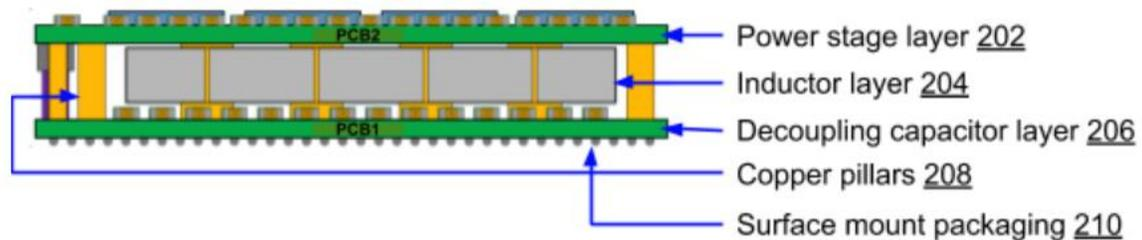

Fig. 2: Layered structure of the power delivery module
Fig. 2 illustrates in finer detail the layered structure of an example power delivery module, where VR components and decoupling capacitors are structured as PCB layers. One of the PCB layers (PCB2) hosts VR components such as power FETs, and is referred to as the power stage layer (202). The decoupling capacitors (206) are placed on another PCB layer (PCB1), possibly a layer relatively close to the load in the vertical stack-up. Other components, such as coupled inductors (204), are placed in the spacing between the layers. The different layers are electrically connected together using copper pillars (208), forming a module. The module as a whole may be molded for mechanical stability. The bottom side of the module can host surface mounts (210), e.g., ball grid array (BGA), land grid array (LGA), or other patterns that match the pad pattern of the load package or the motherboard, depending on where the module is to be soldered.